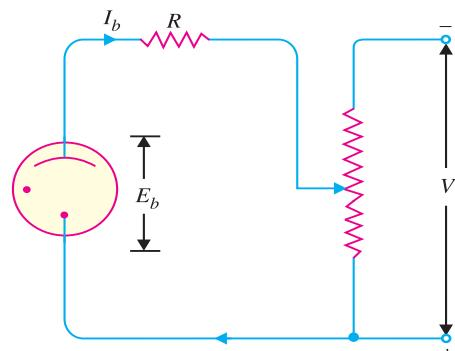

Fig. 3.7
**Operation.** Fig. 3.7 shows a circuit that can be used to investigate the operation of cold-cathode gas diode. Electric conduction through the tube passes through three successive discharge phases viz. Townsend discharge, the glow discharge and the arc discharge.